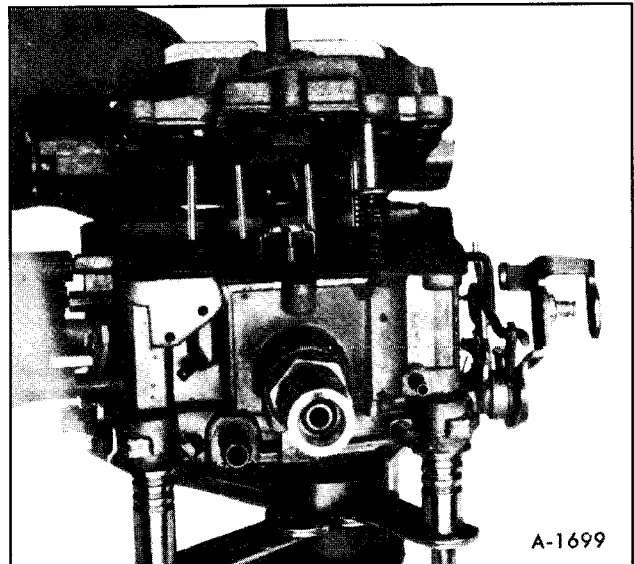

Figure 14-Removing Air Horn
6. The air horn assembly may now be removed from the float bowl by opening the throttle valve wide open and lifting up on the air horn and turning sideways until the pump rod disengages from the upper pump lever as shown in Figure 14.